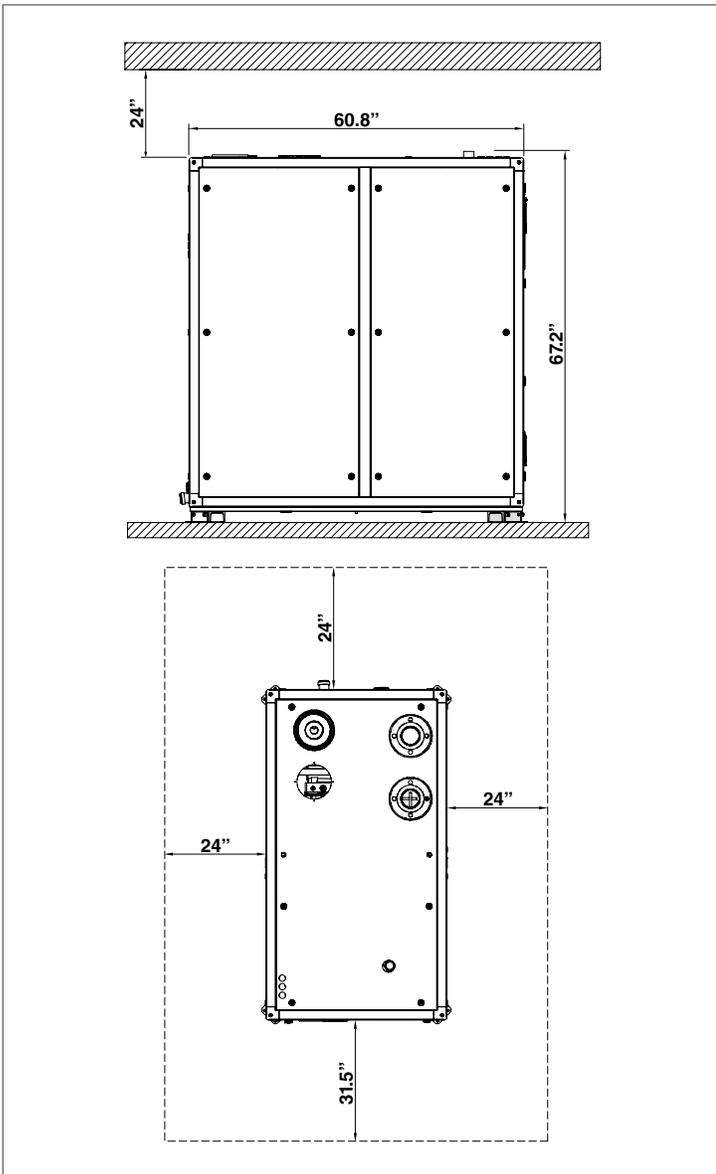
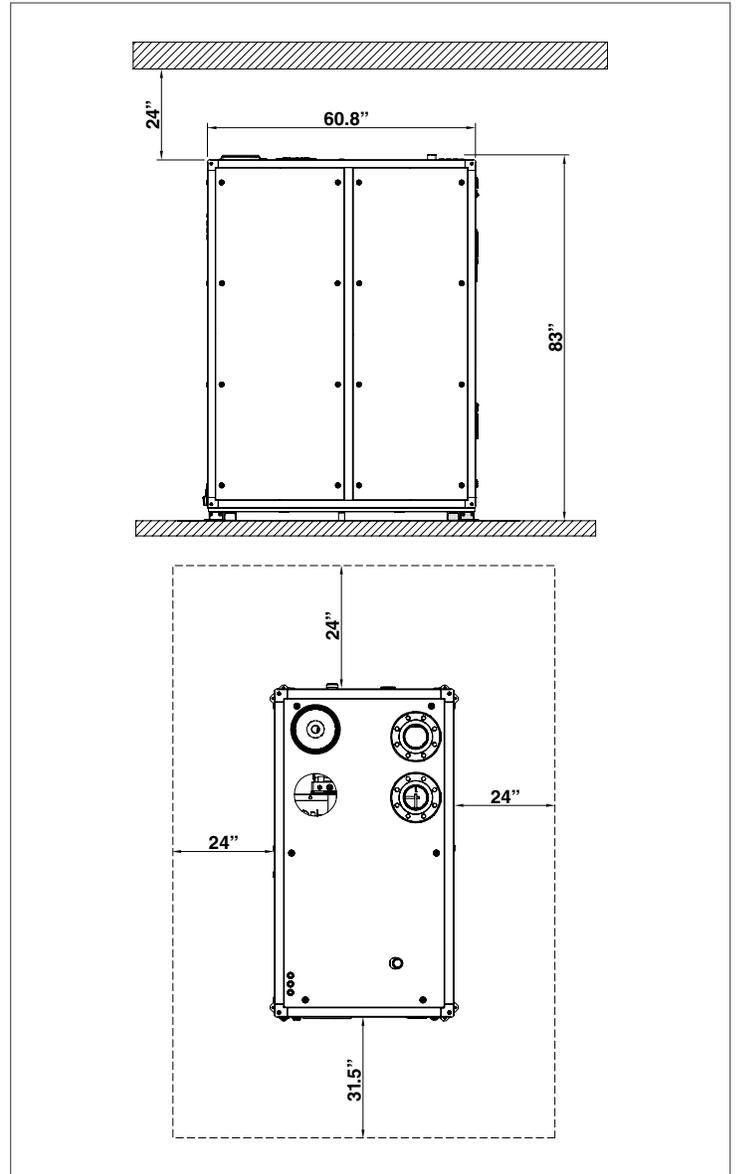

Fig. 3 Array AR 1000, AR 1500 Clearances
Fig. 4 Array AR 2000 Clearances
The **Array** models **AR 1000**, **AR 1500** and **AR 2000** are packaged in an enclosure having identical footprint but different height. The unit must be installed with the prescribed clearances for service as shown in Fig. 3 and Fig. 4. The minimum clearance dimensions, required by **RIELLO**, are listed below. However, if Local Building Codes require additional clearances, these codes shall supersede **RIELLO**'s requirements.
**⚠ CAUTION:** While packaged in the shipping container, the unit must be moved by pallet jack or forklift from the **SIDE ONLY** (see Fig.4).